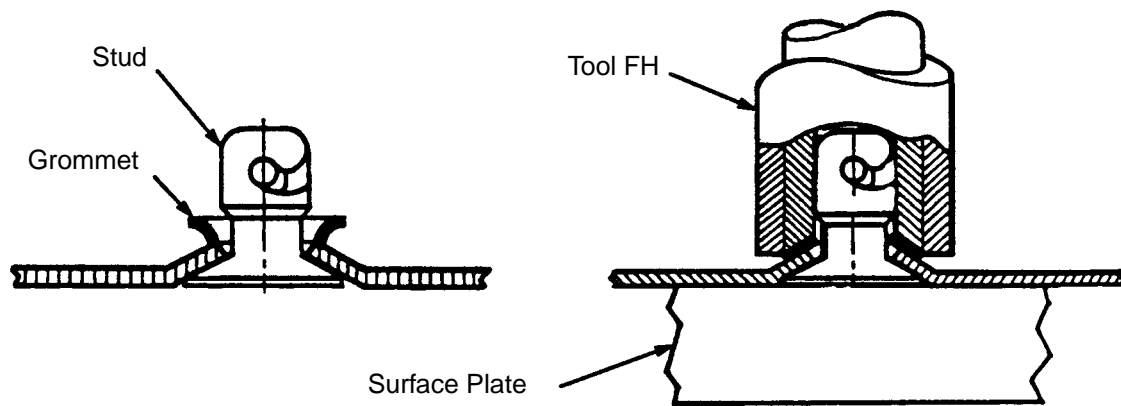

Figure 6 - Installation of Flush Head Studs
5.3.1 Install flush head studs as follows (see Figure 6):